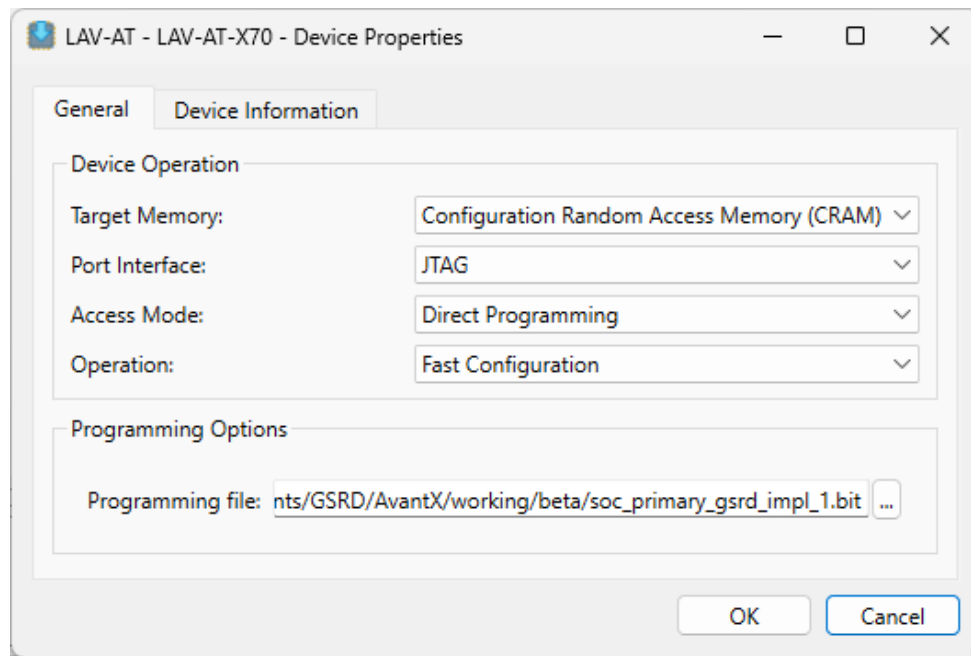

Figure 6.21. Device Properties to Program the FPGA Bitstream in CRAM
19. To program the FPGA Golden GSRD bitstream, double-click on the **Operation** tab to update the selections as shown in Figure 6.21. Make sure to provide the path to the .bit file location on your local machine where you have unzipped the executables.